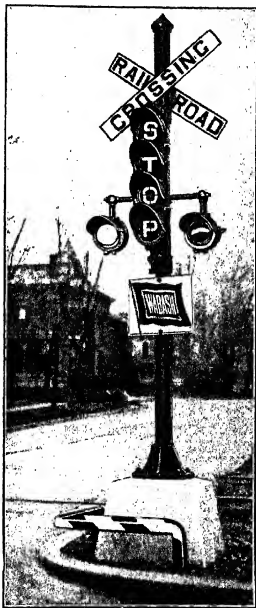

FIG. 152. Modern grade-crossing signal. Union Switch and Signal Co.
**81. Railway Crossing Signals.** Fig. 152 shows a modern grade-crossing signal which displays an illuminated "STOP"